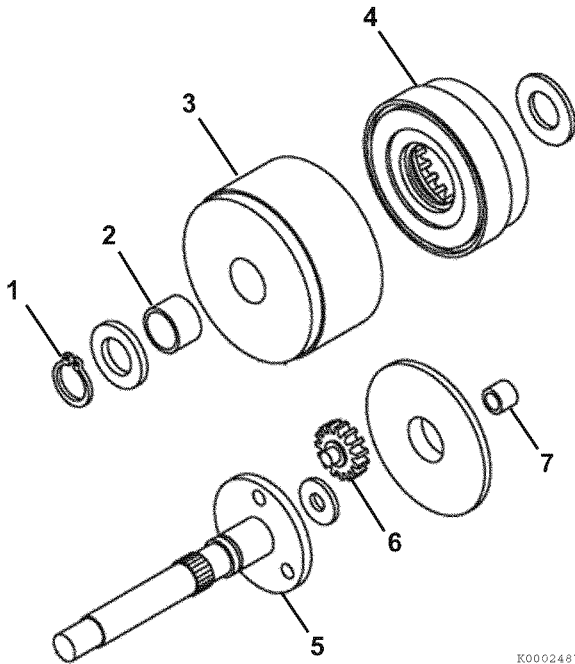

Figure 10-28
2. Reassemble the reduction gear (Figure 10-28, (4)), pinion shaft (Figure 10-28, (5)), planetary gears (Figure 10-28, (6)), and washers into the intermediate housing (Figure 10-28, (3)). Reinstall snap ring (Figure 10-28, (1)).